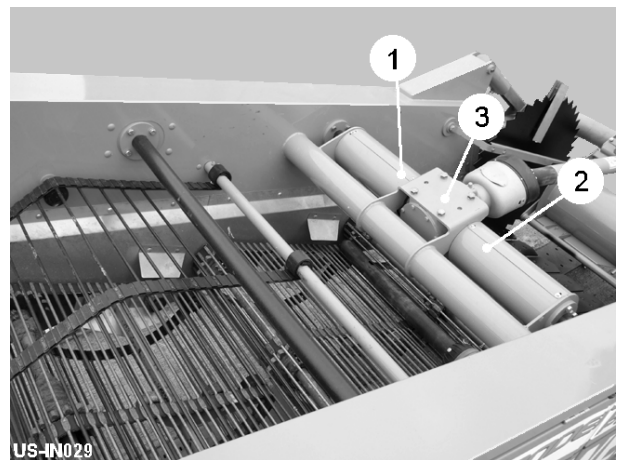

Fig 11
Each web is driven via a toothed belt. For adjustment see the maintenance section of this handbook. The webs are protected by two slip clutches (item 1 & 2, fig 11) located under the guards either side of the main gearbox (item 3, fig 11). The slip clutches are preset at the factory to 1350 Nm.